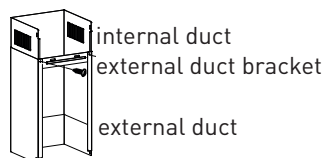

Figure 4
6. Fit the outer duct bracket to the outer duct using two ST4*8mm screws, ensuring that the inner duct remains flexible. See Figure 4.